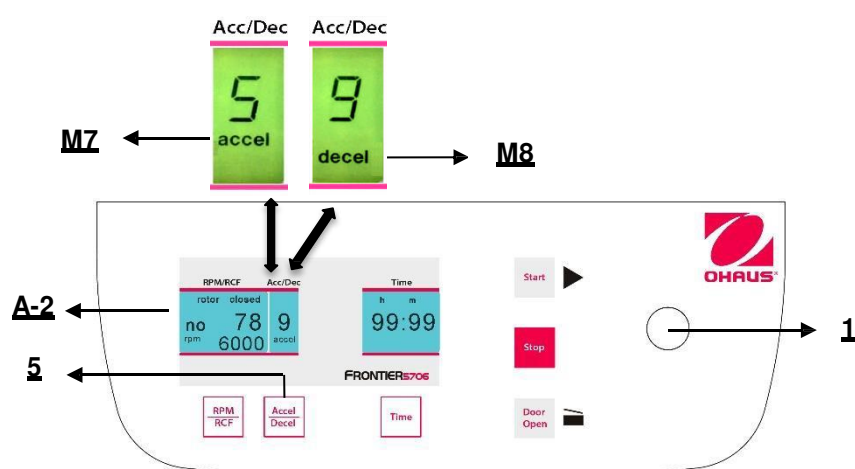

Figure. 21
This function is activated through the key **"Accel/Decel"** (5) (refer to figure 21).